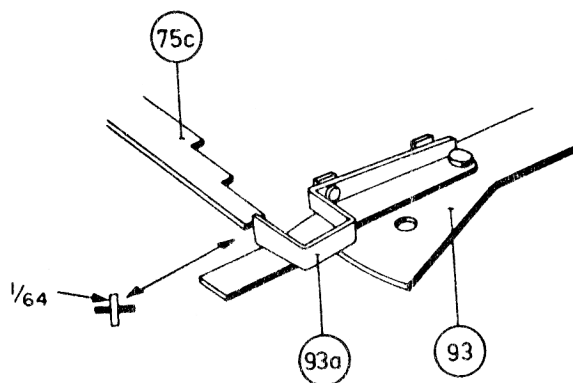

Fig.16
The indexing mechanism consists of the record scanner 75 d connected to the large step bracket 75 c by means of spring 75 a, the small step bracket 75 b and the tumbler fitted to plate 93 (see Figures 16, 17, 18).
2. The tumbler 93 a must stop approximately in the middle of the steps of step bracket 75 c (see Figure 16).
5. In its highest position, the lock of tumbler 93 a must project $1/64''$ to $1/32''$ from the step bracket. (See Figure 16).